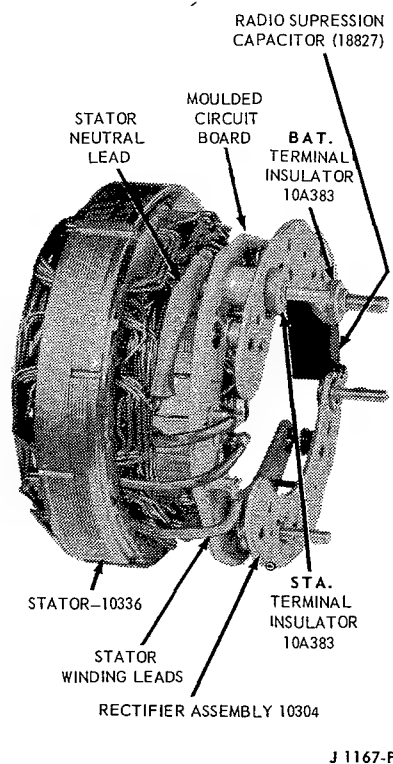
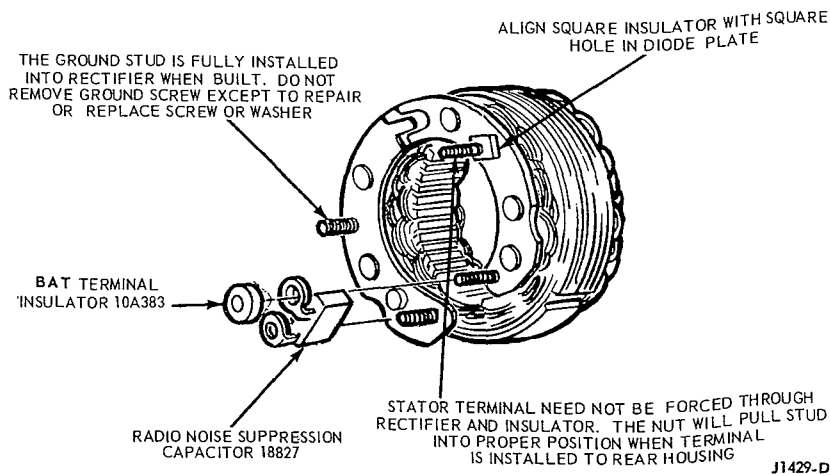

FIG. 16 Stator Lead Connections
FIG. 17 Terminal Insulators — Fiber-Glass Circuit Board
9. Wrap the three stator winding leads around the rectifier terminals and solder them. Use a 100-watt soldering iron and rosin-core solder. Position the stator neutral lead eyelet on the stator terminal screw and install the screw in the rectifier assembly (Figure 16).
11. Position the radio noise suppression capacitor on the rectifier terminals. On the circuit board with exposed diodes, install the STA and BAT terminal insulators (Figure 16). On the single circuit board, position the square hole in the rectifier assembly (Figure 12). Position the BAT terminal insulator (Figure 17) on the BAT terminal.